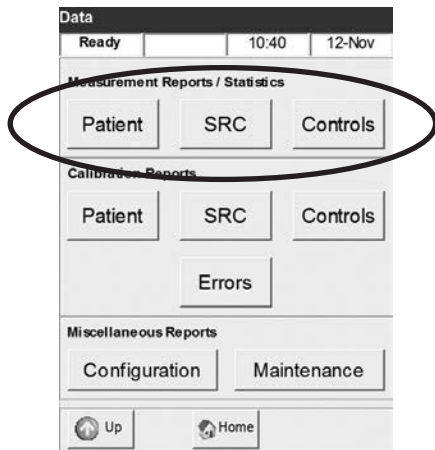

Fig. 4-32 Select Data
2. Select **<Patient>**, **<SRC>** or **<Controls>** (Fig. 4-32).